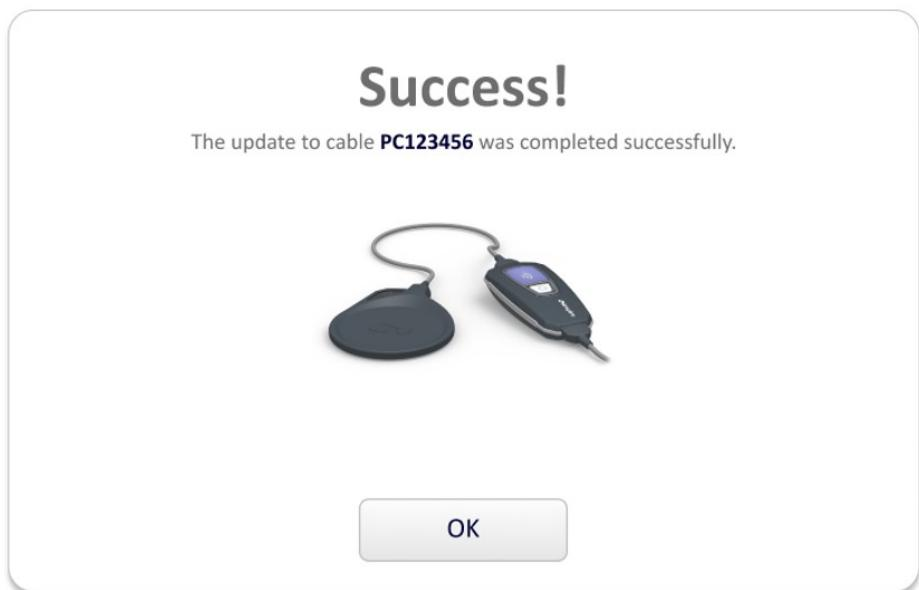

Figure 3-16. Success
g. Once you see the Success! window (Figure 3-16) select **OK**.